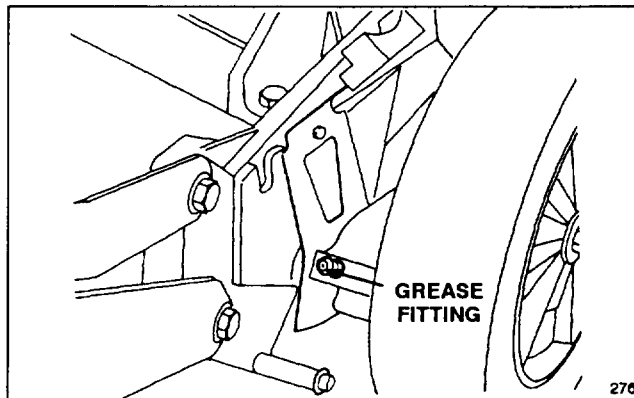

Figure 23
2. **SELF-PROPELLED MODELS ONLY**—Move rear wheel height-of-cut levers to "C" setting. Wipe grease fittings with clean rag (Fig. 23). Install grease gun onto fitting and gently apply 2 or 3 pumps of #2 Multi-Purpose Lithium Base Grease. Excess pressure may damage seals and prevent the free wheel clutch from operating properly.